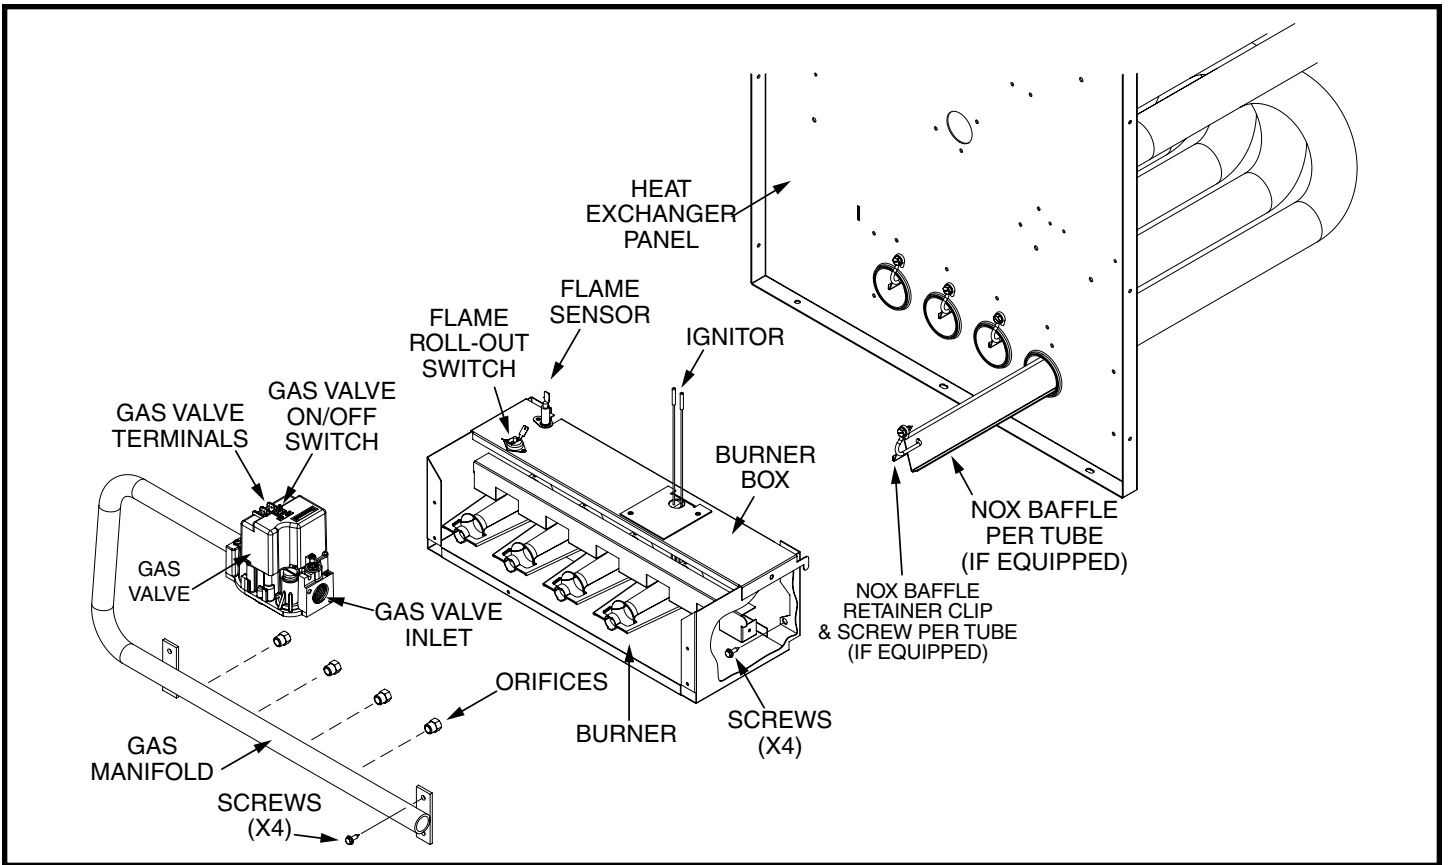

Figure 8. Burner & Manifold Assembly
11. Carefully remove the four screws inside the burner box (2 at each end), securing the complete burner box assembly to the heat exchanger panel as shown in Figure 8 \(page 22\). **BE EXTREMELY CAREFUL NOT TO DAMAGE THE IGNITOR WHILE REMOVING THE BURNER ASSEMBLY.**
8. Carefully remove the four screws inside the burner box (2 at each end), securing the complete burner box assembly to the heat exchanger panel as shown in Figure 8 \(page 22\). **BE EXTREMELY CAREFUL NOT TO DAMAGE THE IGNITOR WHILE REMOVING THE BURNER ASSEMBLY.**